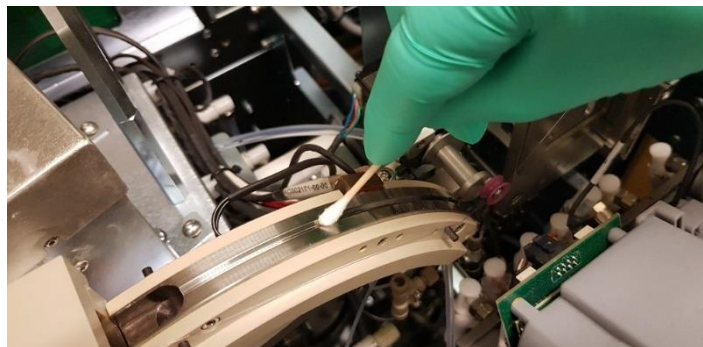

Figure 90 Cleaning the dyeing head
6. Clean the dyeing head with the stick as shown in Figure 90.